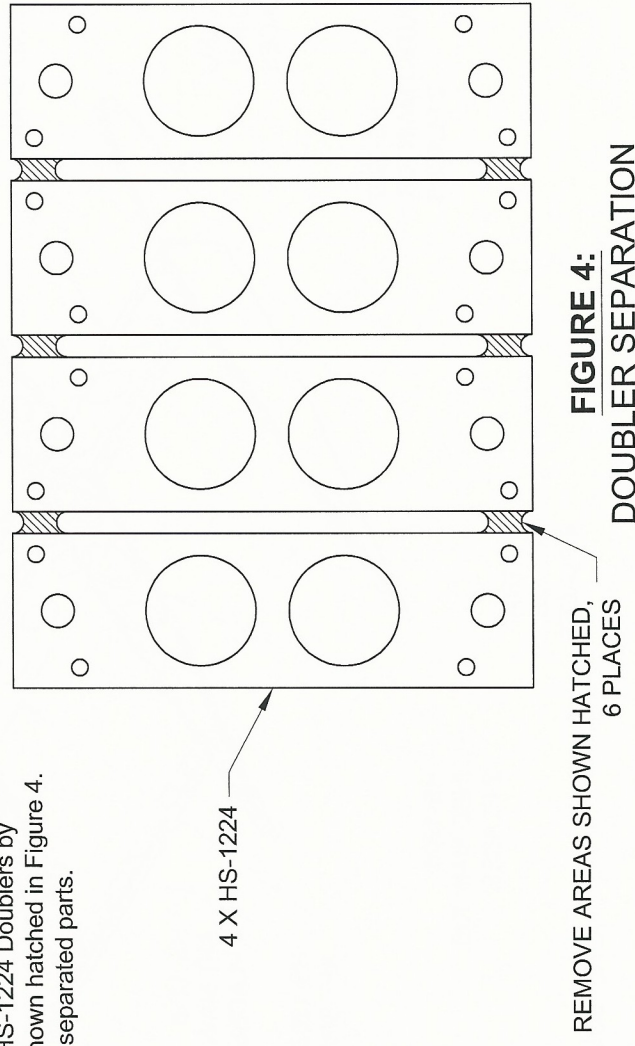

FIGURE 4:
- Step 10: Separate the HS-1224 Doublers by removing the material shown hatched in Figure 4. Deburr the edges of the separated parts.